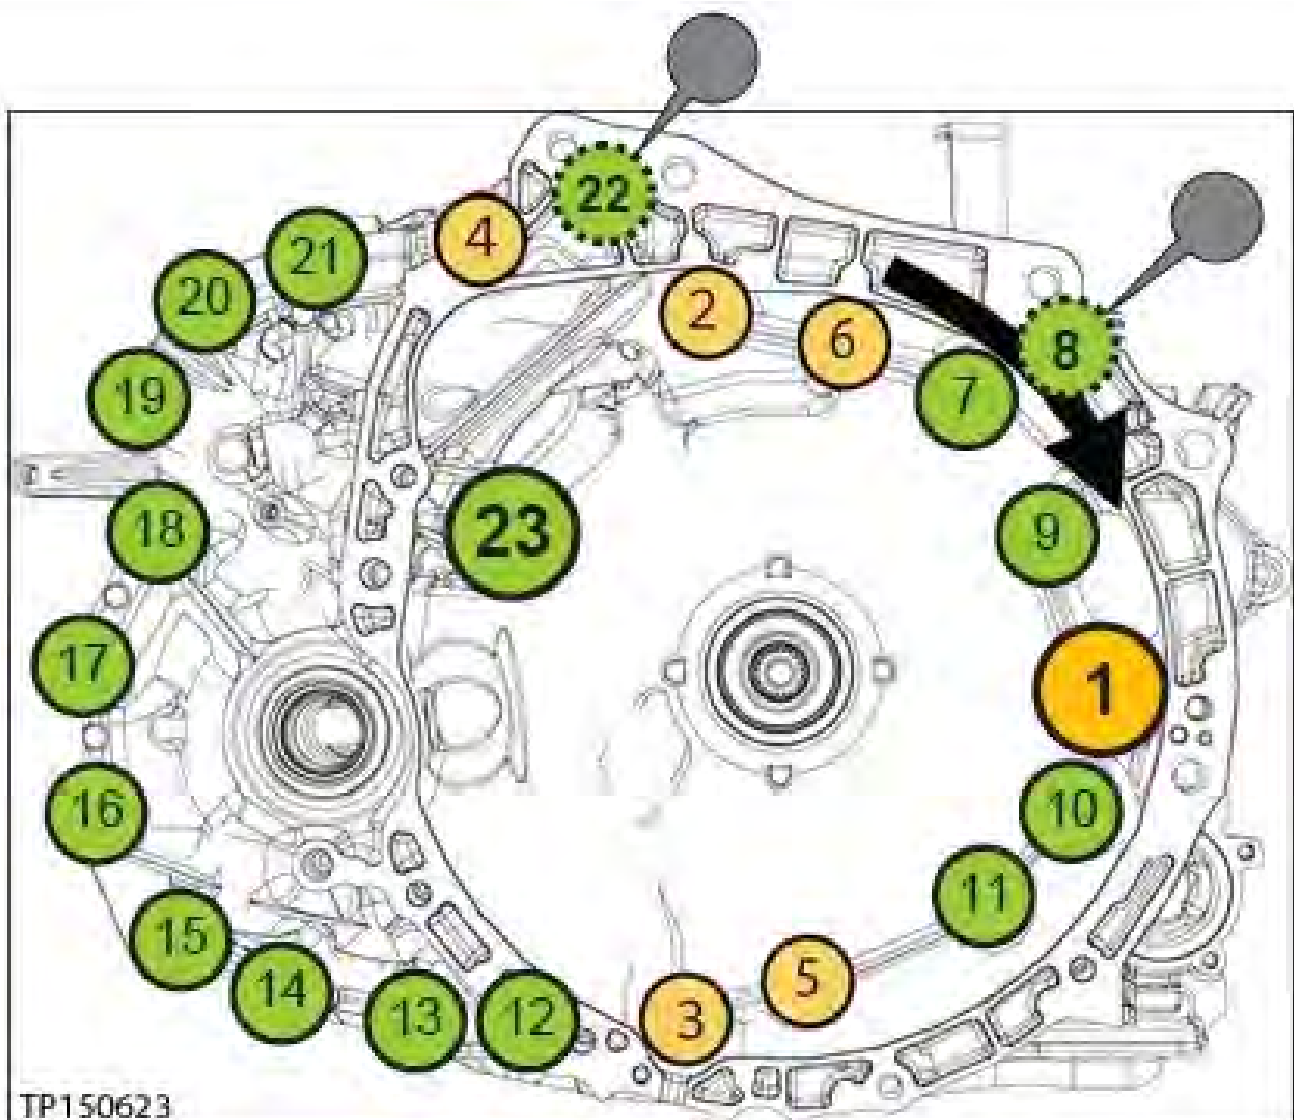

Figure 138
111. Install the converter housing onto the CVT case (see Figure 138 for torque sequence):
- Install new bolts (23).
- a. Torque the first six (6) bolts with symbol  in numbered sequence (see below).
**IMPORTANT:** Make sure to torque the bolts in the sequence shown (Figure 138).